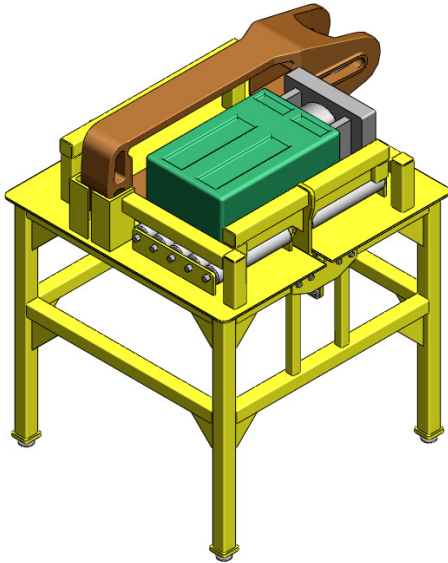

FIGURE 3
3. Use the crane or forklift to place the draft gear on the conveyor rollers next to the pusher arm. The yoke must be in the horizontal position before placement. Do not attempt to rotate or position the draft gear once it has been placed on the table (Figure 3).
4. Use the crane or forklift to place the follower block on the conveyor rollers next to the pusher arm in front of the draft gear. Do not attempt to rotate or position the follower block once it has been placed on the conveyor rollers (Figure 3).